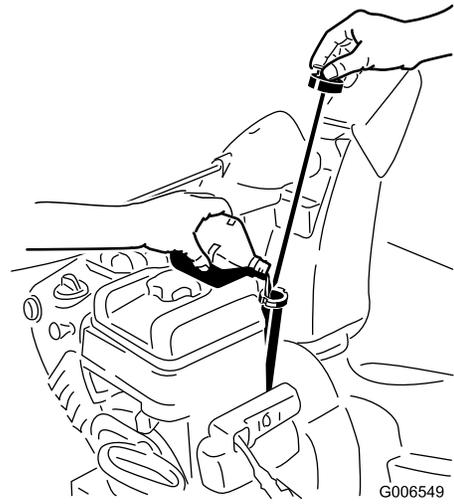

Figure 20
1. Remove the dipstick and **slowly** pour oil into the oil fill tube to raise the oil level to the Full mark on the dipstick. **Do not overfill** (Figure 20). Refer to Checking the Engine Oil Level (page 21).